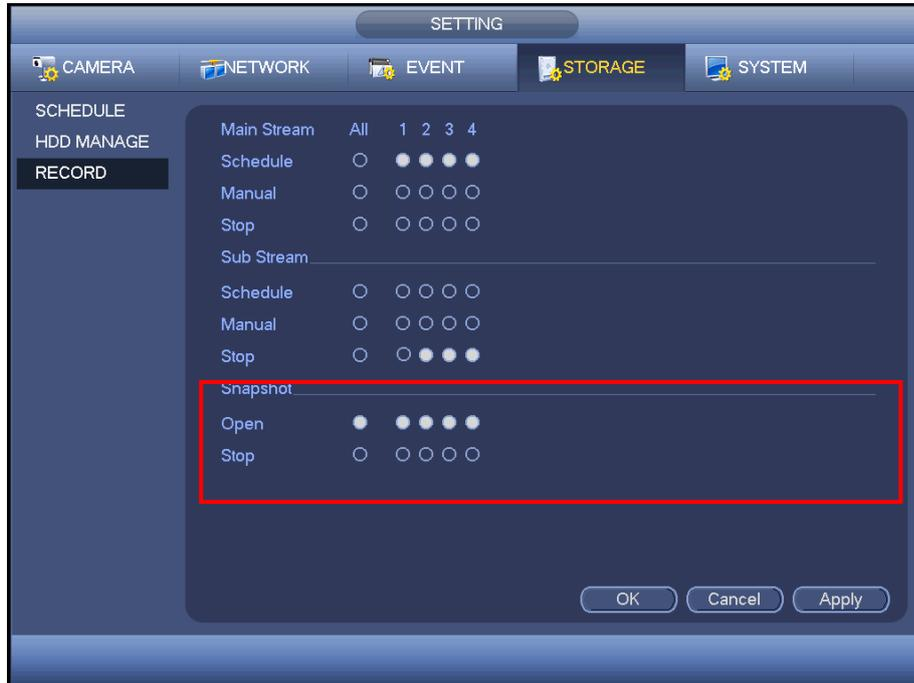

Figure 4-142
- On the preview interface, right click mouse and then select Manual->Record, or in the main menu, from Setting->Storage->Record, check the box to enable snapshot function of corresponding channels. See Figure 4-142.